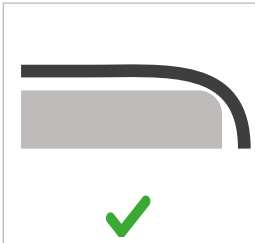
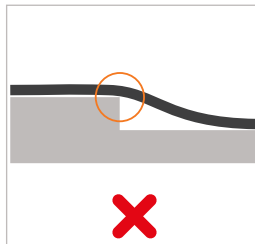

Figure 5
Figure 8
- ▶ Do not pull the hose over any sharp edges (*Figure 5 and Figure 8*).